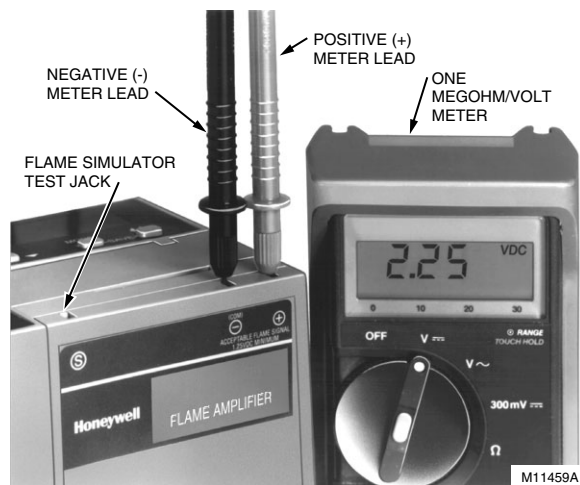

Fig. 4. Flame signal measurement with meter.
- (1) Enclose scanner wiring without armor cable in metal cable or conduit.
- (2) Follow flame detector Instructions.
7. Check wiring, see Fig. 4.
Flame Signal Measurement (Fig. 4)
Flame signal can be measured at the Flame Signal Test Jacks, see Fig. 4, and at the Keyboard Display Module. Measure the flame signal at the appropriate times defined in the Checkout section; see applicable 7800 SERIES Relay Module Instructions. See Table 3 for acceptable and maximum flame signal voltage strengths.